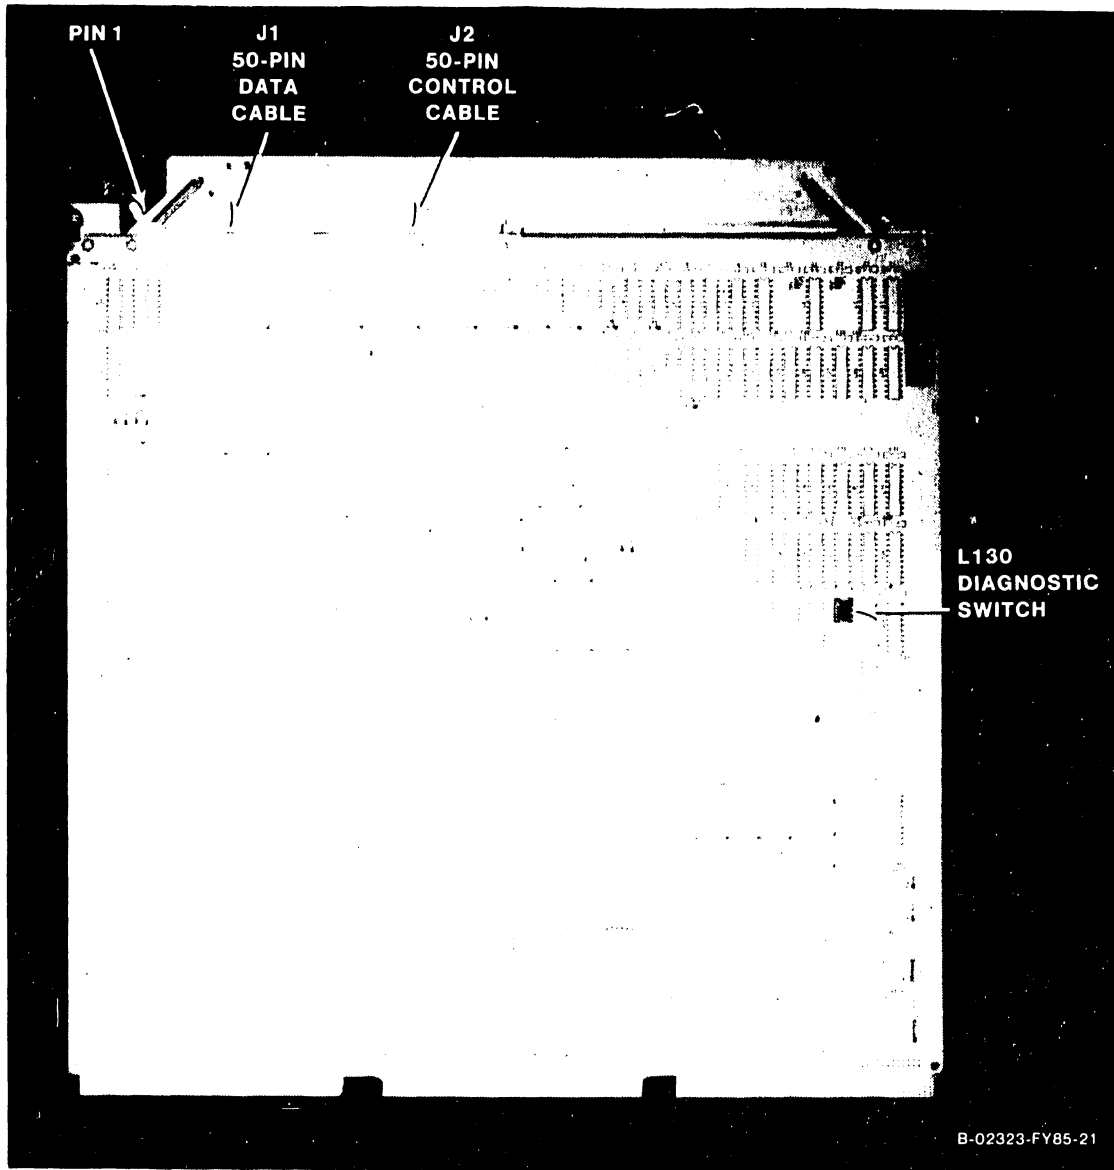

Figure 7-33. 23V95-1 Kennedy Tape IOC
1. Disconnect all cables from the top of the 23V95-1 Kennedy Tape IOC (figure 7-33). Note the position of all cables for later reassembly.